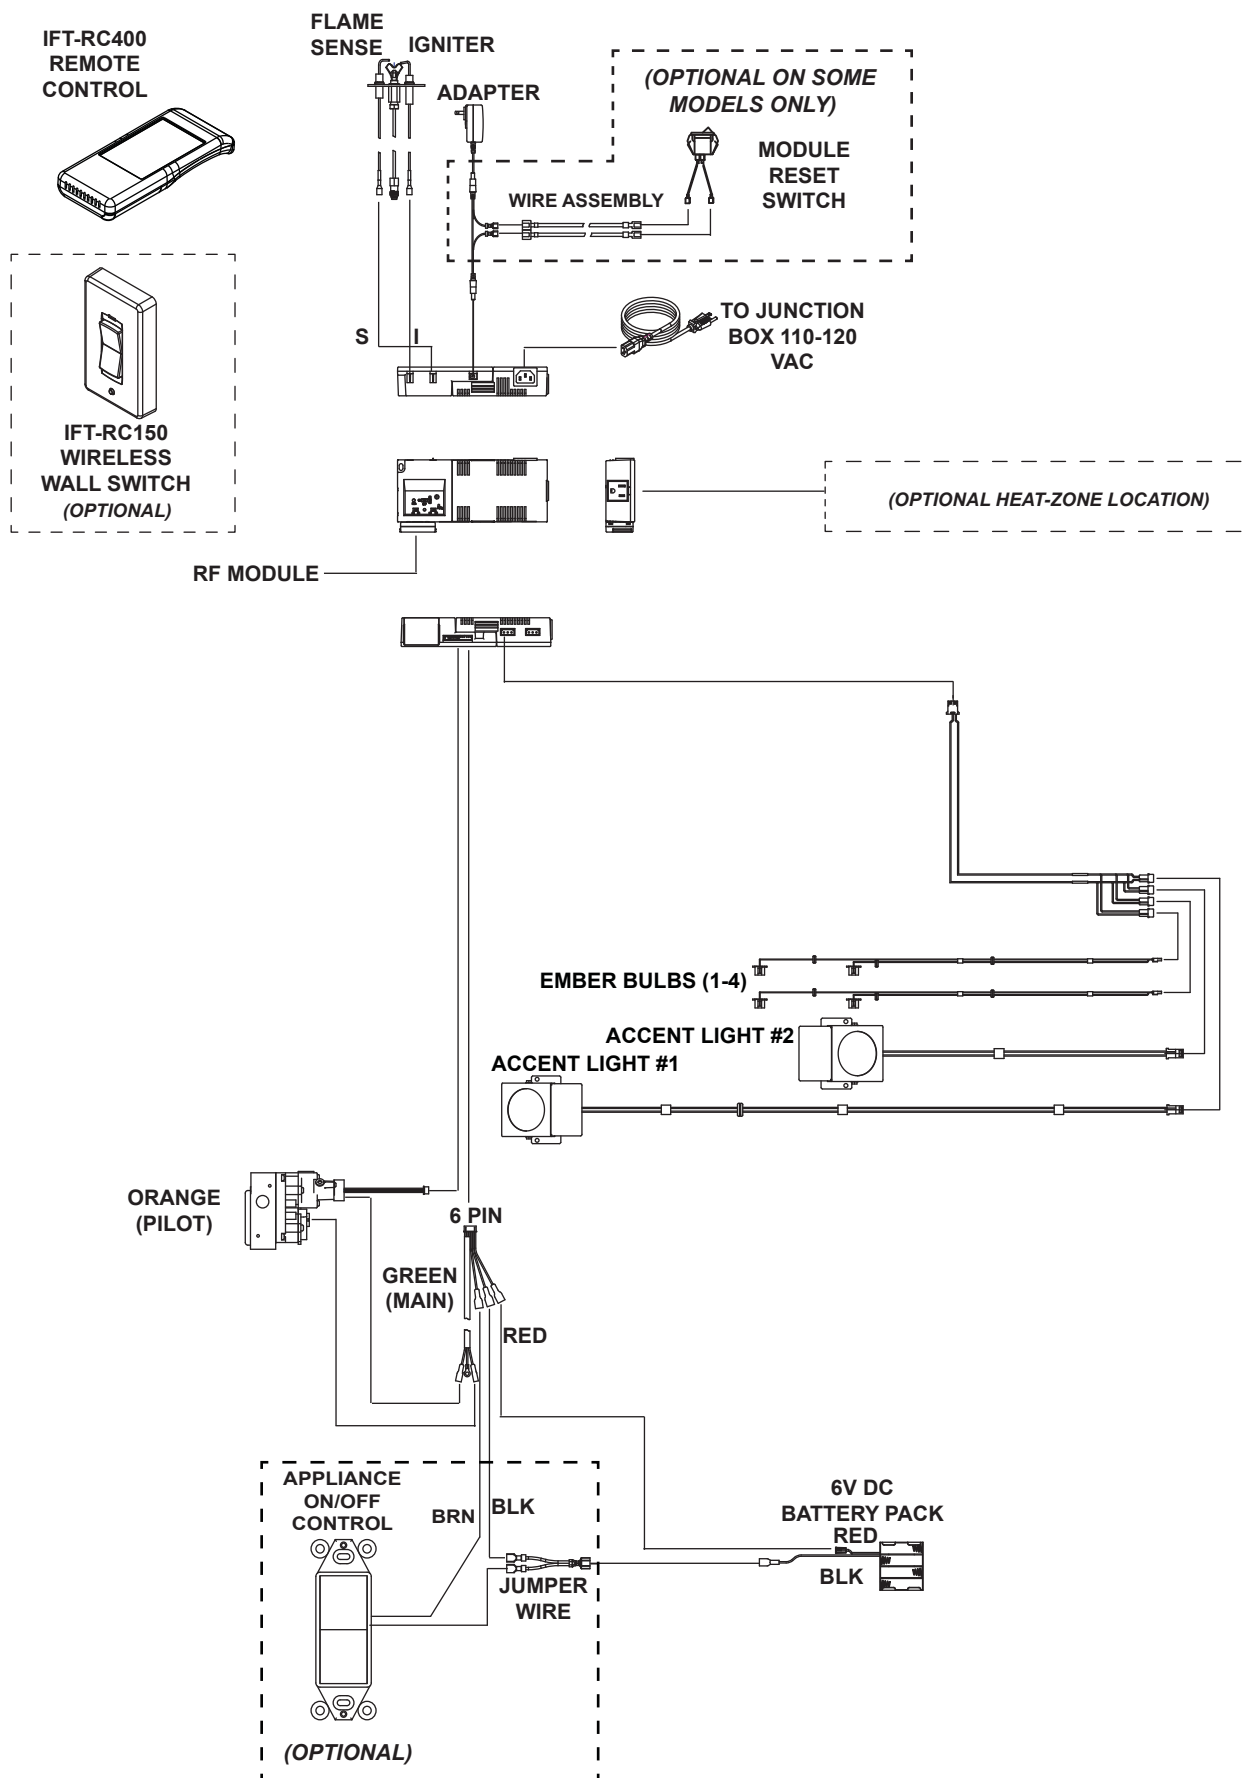

Figure 8.2 IntelliFire™ Touch Wiring Diagram
- Refer to Figure 8.2, IntelliFire™ Touch (IPI) Wiring Diagram.